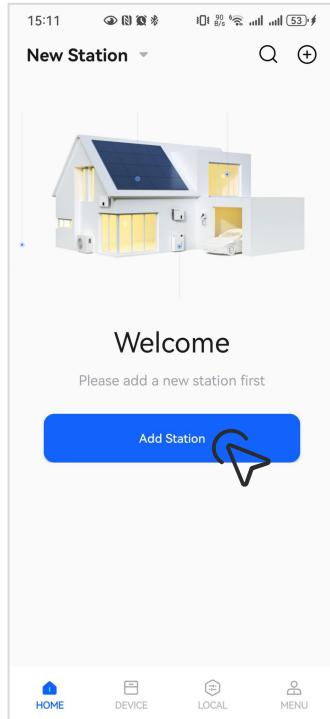

Figure 28
② Now you don't have a station yet?
- Tap "Create station" on the page, as shown in Fig. 28.